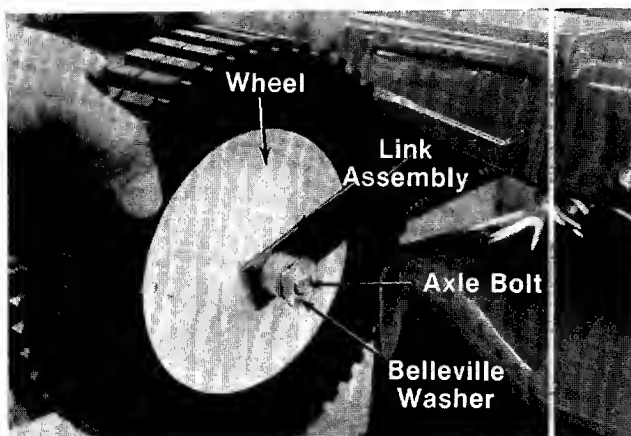

FIGURE 15.
4. With an adjustable wrench, remove the axle bolt, front wheel and belleville washer. See figure 15.